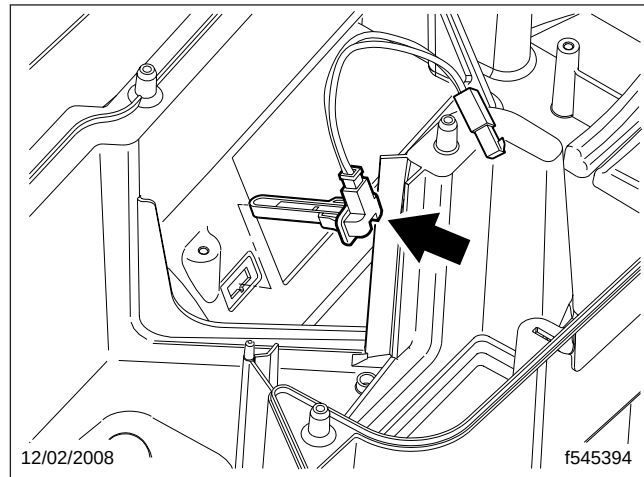

Fig. 3, Ambient Air Temperature Sensor Installation
21. Remove the ambient temperature sensor. See Fig. 3.